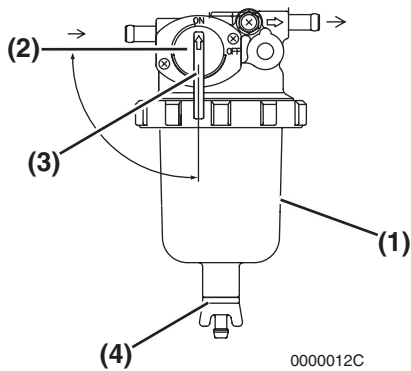

Figure 5-7
1. Position an approved container under the fuel filter / water separator **(Figure 5-7, (1))** to collect the contaminants.
2. Close **(Figure 5-7, (2))** the fuel cock **(Figure 5-7, (3))**.
3. Loosen the drain cock **(Figure 5-7, (4))** at the bottom of the fuel filter / water separator. Drain any water collected inside.
5. Open the fuel cock **(Figure 5-7, (3))**.